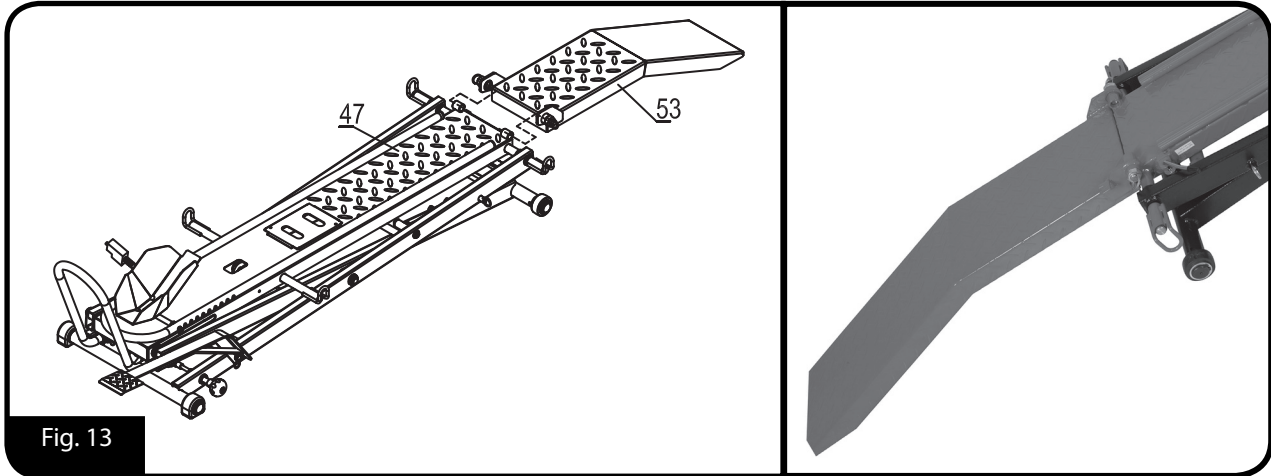

Fig. 13
STEP 3. Attach The Ramp Plate (Fig.13)